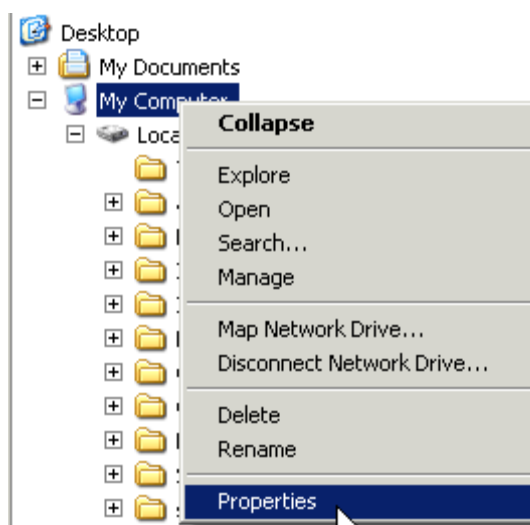

Figure 38: My Computer/Properties
9. On the *Windows Explorer* window, right-click *My Computer* and click *Properties* on the drop-down menu (see Figure 38).